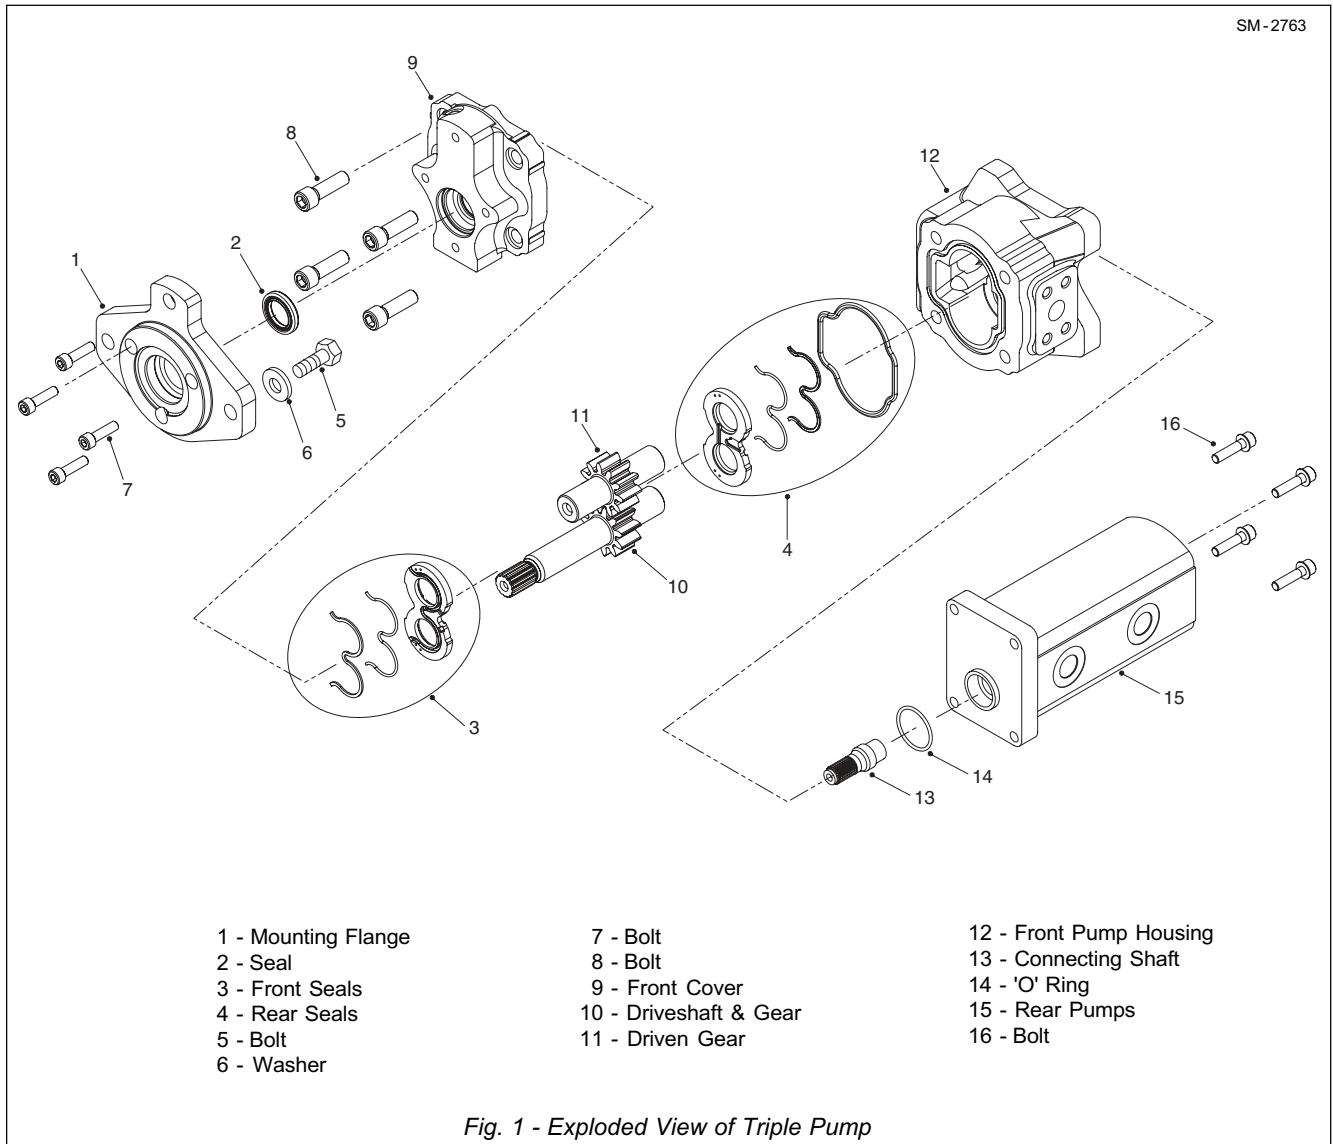

Fig. 1 - Exploded View of Triple Pump
Numbers in parentheses refer to Fig. 1.
Numbers in parentheses refer to Fig. 1. The triple pump can be identified as item 1 in Section 210-0005, COOLING SYSTEM SCHEMATIC.
Numbers in parentheses refer to Fig. 1. Refer to Fig. 2 for the operation of a typical gear type hydraulic pump. Refer to Fig. 3 for hydraulic schematic of the triple pump operation.
Numbers in parentheses refer to Fig. 1. The motor/triple pump (1) can be identified as item 7 in Section 210-0005, COOLING SYSTEM SCHEMATIC.